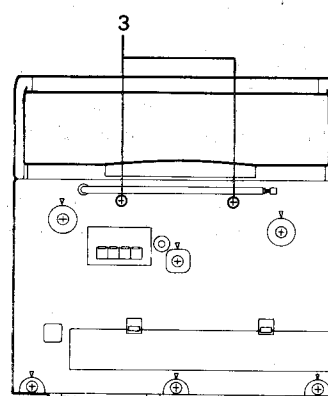

Fig. 7-3
■ CD Player Assembly (refer to Fig. 7-3, 7-4)
1. Turn the body backward and remove the two screws ③ retaining the CD player assembly.
2. After putting the hand onto the right and left back sidea (A), (B) of the CD case retaining the system microcomputer P.C. board, draw out and dismount the case to the front side.